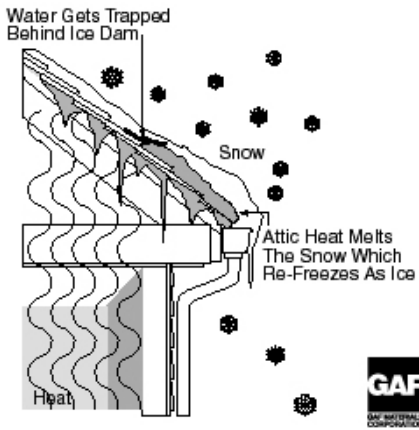

Figure 1
**An ice dam is a build-up of ice at the eave that may eventually back-up water under the shingles.** When snow on the roof melts, the water travels down the roof and freezes when it passes over the unheated eave. As the water continues to flow, it becomes blocked by the newly formed "ice dam". This water then freezes, and the cycle continues. As more water freezes, it begins to back-up under the shingle tabs. As this continues further up the roof, the warmer attic space may prevent the water from freezing and this water may enter the house. **Fig. 1**